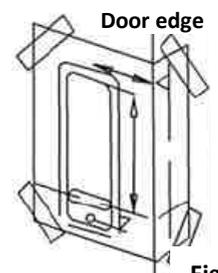

Figure 1
- Correctly position and tape the template, T/038/SBL365.S, to the internal door face, at the desired height from the floor level. Ensure that the relevant, marked, door edge on template is correctly aligned with actual door edge. (Figure 1)